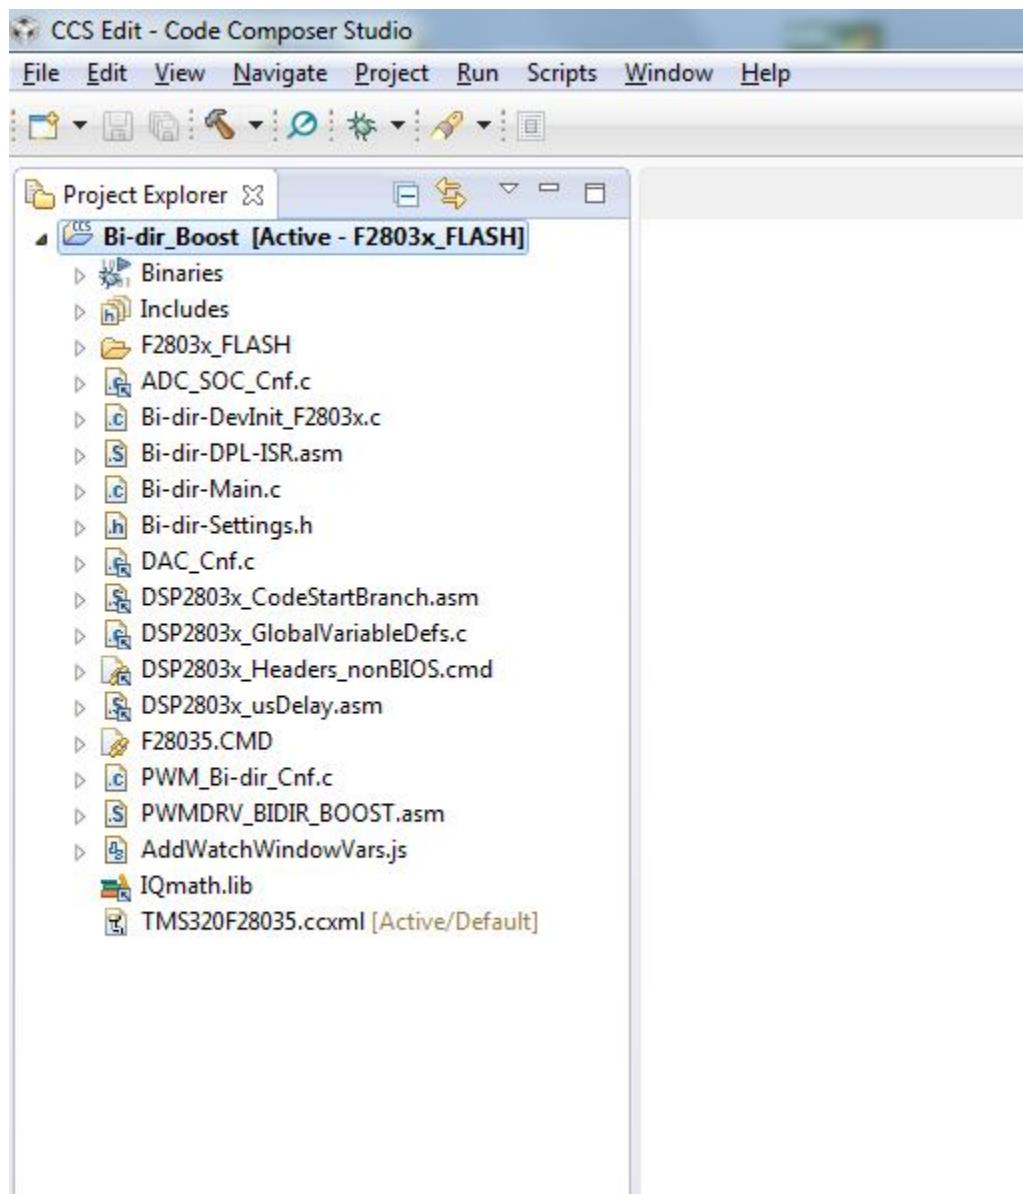

Figure 56. Boost Mode CCS Project Window
14. In the Project window on the left, click + to the left of Project. See Figure 56.